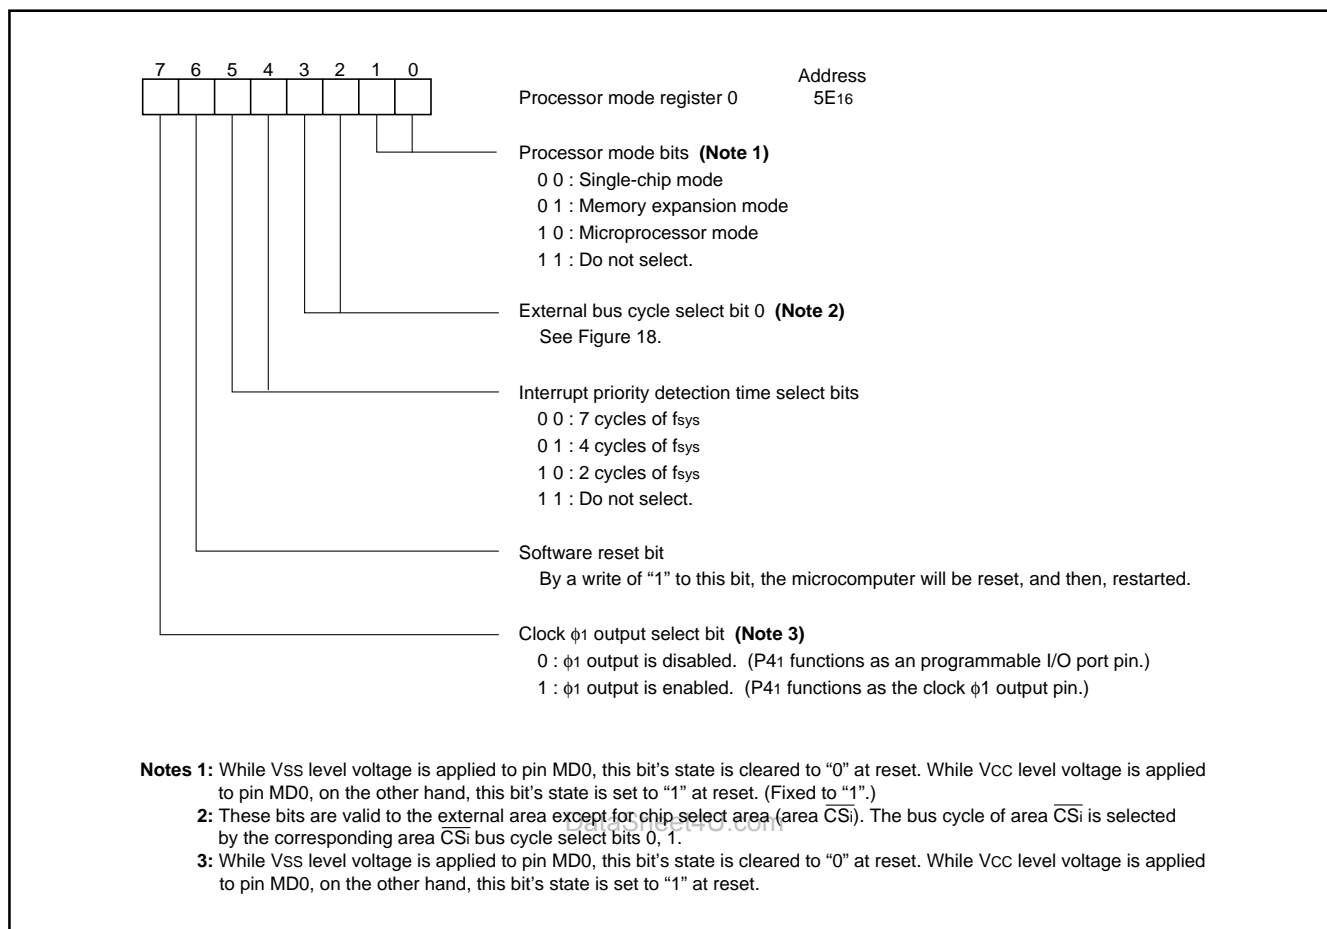

Fig. 24 Bit configuration of processor mode register 0
- Processor mode bits of the processor mode register 0 (bits 1 and 0 at address 5E16; Figure 24)
Figures 24 to 26 show the bit configurations of the processor mode registers 0, 1, and port function control register.